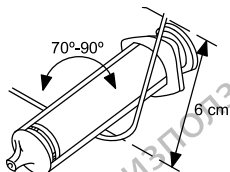

Figure 3. Curve the stylet
2. Select a stylet according to the function and to the preferred firmness. If desired, gently curve the stylet with any sterile, smooth-surfaced instrument (e.g., 10-cc or 12-cc syringe barrel) (Figure 3 Curve the stylet on page 16). A gentle curve is less likely to straighten than a sharp bend as the stylet is used.